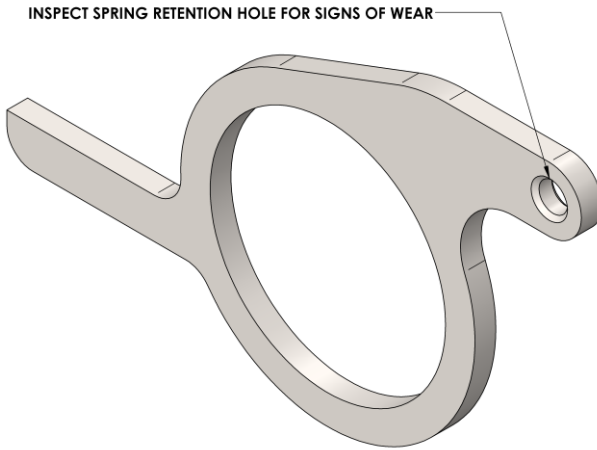

Figure 25: Inspect Spring retention hole for wear on spring arms.
25. Inspect the spring arms for wear as shown in Figure 25. If the spring retention hole show signs of wear such as indentations where the spring makes contact, the arms should be replaced.